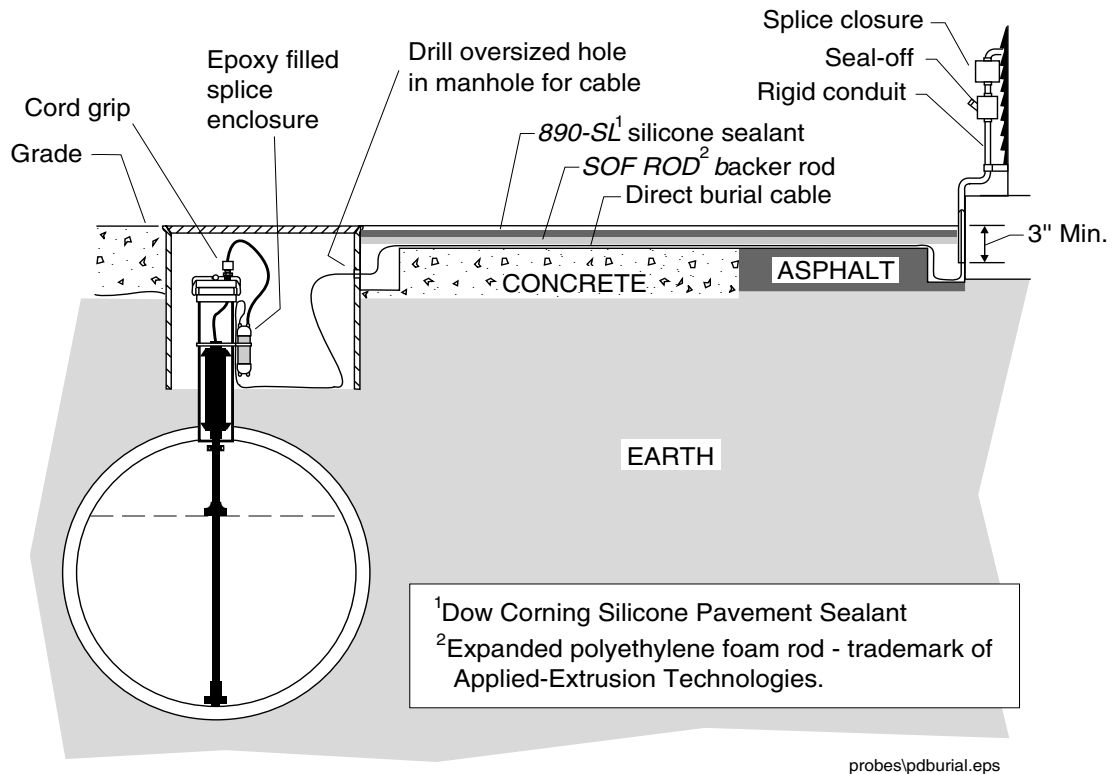

Figure 2. Direct Burial Installation
See Figure 2 for a cross sectional view of a single Direct Burial Cable run. Figure 2 is a typical cable run from a probe to the cable entry point.
3. Dig out areas around the entry and exit points for the Direct Burial Cable (see Figure 2 on page 8). In the sump area these holes need to be about eight inches deep for cord grip installation. For the building entry area, about six inches is needed for the conduit which can be secured to the outside walls or come up through the floor. These areas should be back filled once the cable has been tested.
8. In the sump area, install a cord grip over each Direct Burial Cable. Mount each cord grip into the sump wall. Run the Direct Burial Cables along the bottom of the sump, as shown in Figure 2 on page 8, then tighten the cord grips.